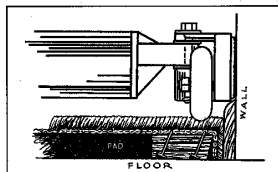

Figure 2
- D. Finally, attach the Speed Roller Tail Block and place it against the stretch-off wall. The wheels of the Speed Roller Tail Block bridge over most existing base shoes, protecting it from damage. (See figure 2.)